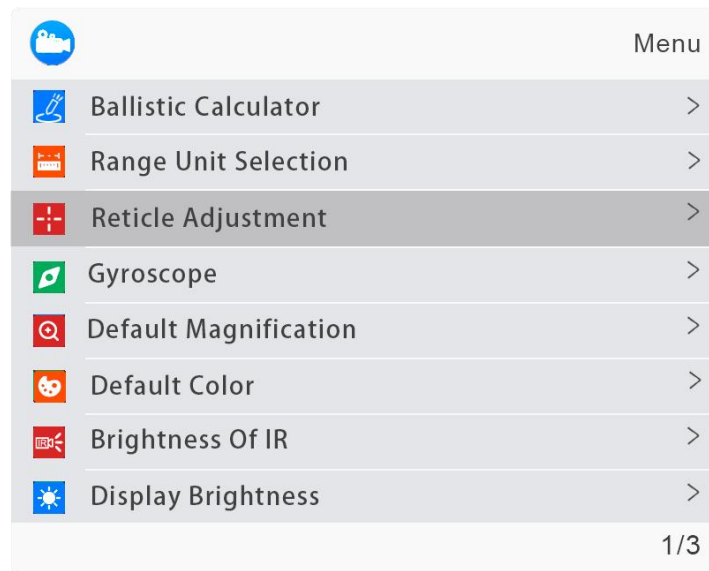

Fig. 14
- (1) **Set the target:** Set the target at the desired zeroing distance and ensure that the device provides a clear image of the target.
- (2) **Enter the reticle adjustment (Zeroing page):** From the home screen, press [Key 4] to access the menu. Then press [Key 3] to select the reticle adjustment option. Press [Key 2] to enter the sub-menu interface shown in **Fig. 14**.